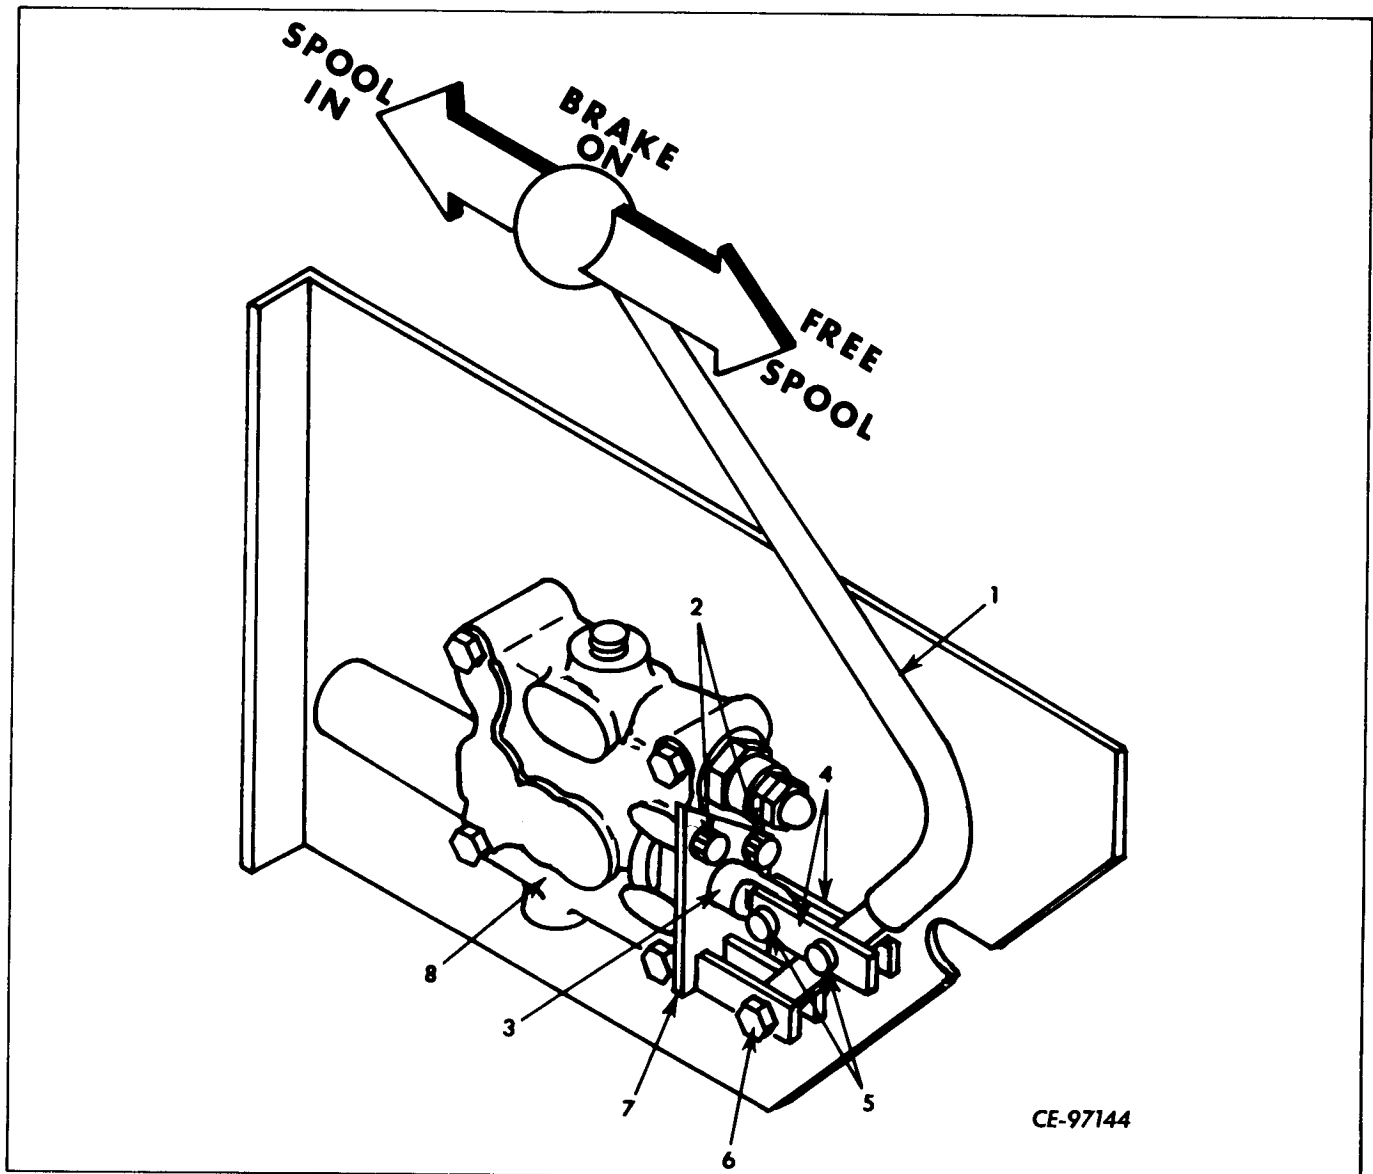

Figure 9-7
Disconnect control lever (1, Fig. 9-7) from valve spool (3) by removing cotter pins, clevis pins (5) and links (4). Remove nut and cap screw (6). Remove control lever mounting bracket (7) from control valve (8) by removing socket head cap screws and lock washers (2).